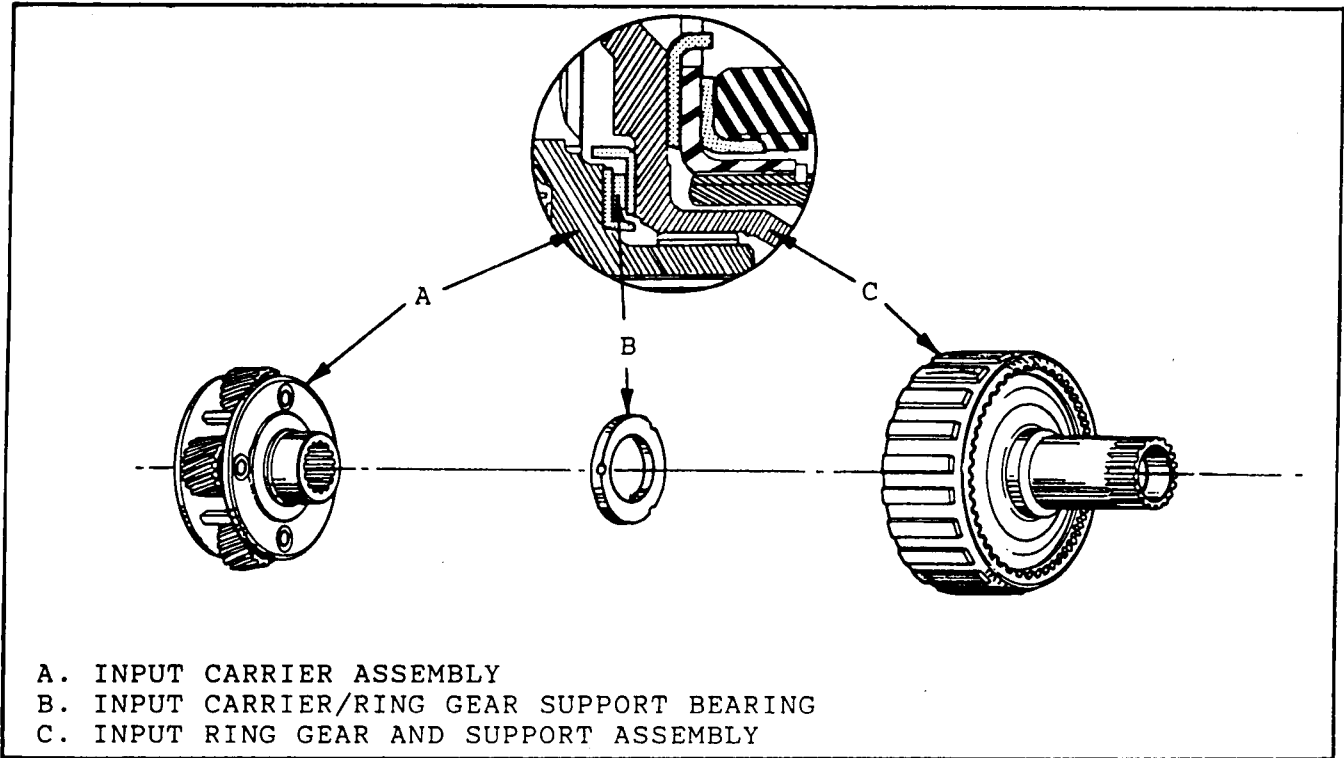

Figure 94
- Input carrier to ring gear thrust bearing for wear or damage (Figure 94).
2. Install thrust bearing into input ring gear and retain with Trans-Jel (See Figure 94 for bearing direction).